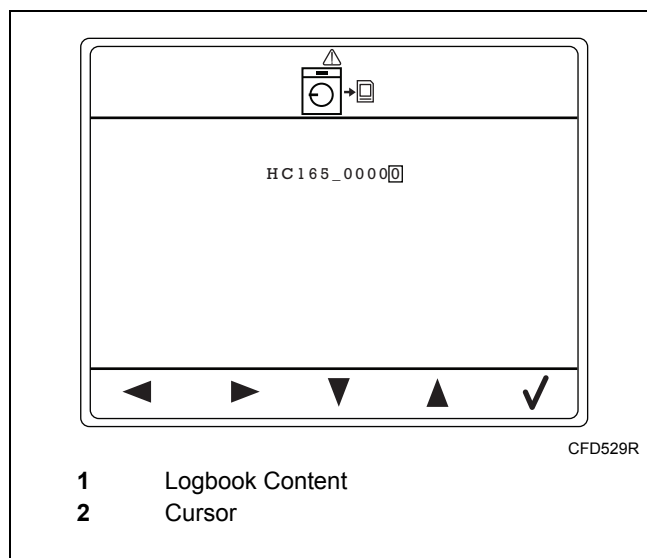

Figure 49
The logbook content file is displayed as shown. Refer to *Figure 49*. If necessary, the name of the file can be changed.
1. Move the cursor using the keypads below the Left/Right icons to select a letter or figure or to add a letter or figure. Refer to *Figure 49*.
2. Change the letters and figures with using the keypads below the Up/Down icons. Refer to *Figure 49*.
3. Press the keypad below the Check icon to write the data to the data card. Refer to *Figure 49*.